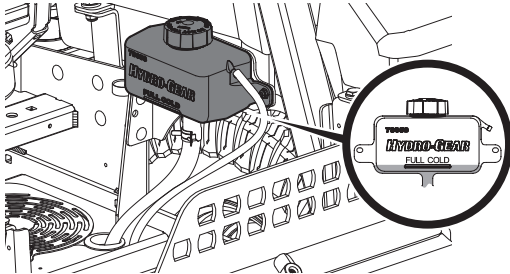

Figure 49
- Turn the reservoir cap counterclockwise to remove, then check the oil level in the reservoir. Oil should be visible at the bottom of the cup, but the oil level must NOT be above the "FULL COLD" line (Figure 49). DO NOT FILL THE RESERVOIR.